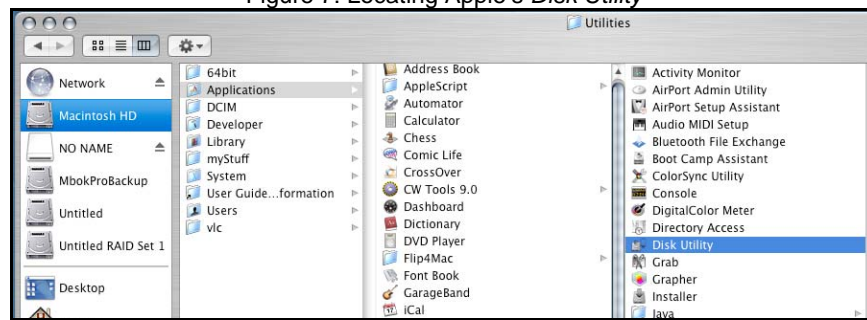

Figure 8: Alternate method for locating Apple's *Disk Utility*
2. Review the list of hard drives shown within *Disk Utility* (see Figure 8). Drives currently in use should have a list of volume names below it. New, unformatted drives typically have no volume names listed. Carefully select the drive you wish to format.